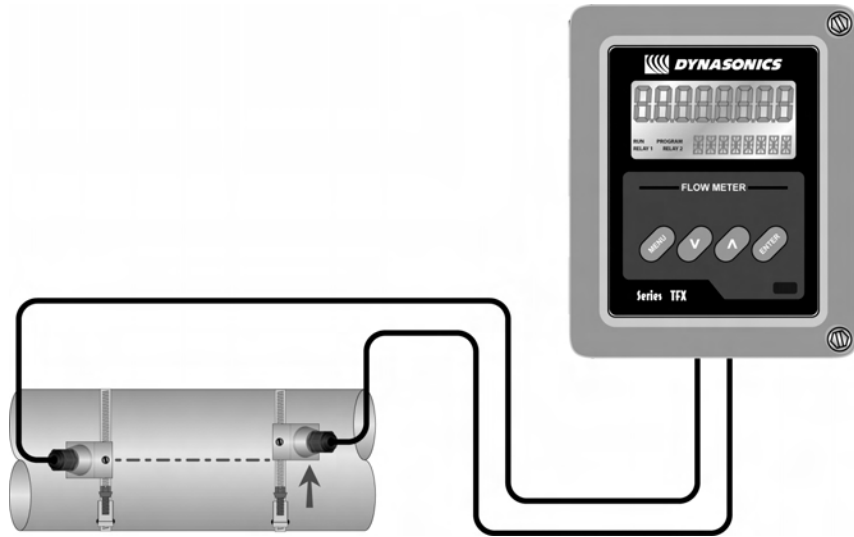

Figure 2.4
5. Certain pipe and liquid characteristics may cause signal strength to rise to greater than 195 percent. The problem with operating a TFXD with very high signal strength is that the signals may saturate the input amplifiers and cause erratic readings. To decrease the signal strength, move one transducer a small distance radially around the pipe, as shown in **Figure 2.4** on page 2.11.
8. Certain pipe and liquid characteristics may cause signal strength to rise to greater than 195 percent. The problem with operating a TFXD with very high signal strength is that the signals may saturate the input amplifiers and cause erratic readings. To decrease the signal strength one transducer can be offset radially, as illustrated in **Figure 2.4** on page 2.11, or a V-Mount transducer mounting method may be chosen.